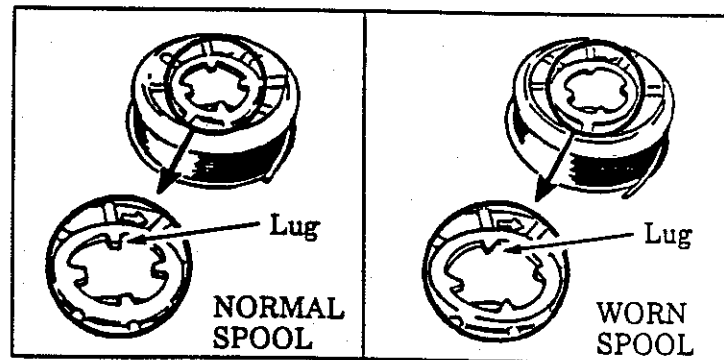

Figure 25
- a. Replace the spool when the square corners on the lugs are rounded off, reduced in size, or broken off. Figure 25.